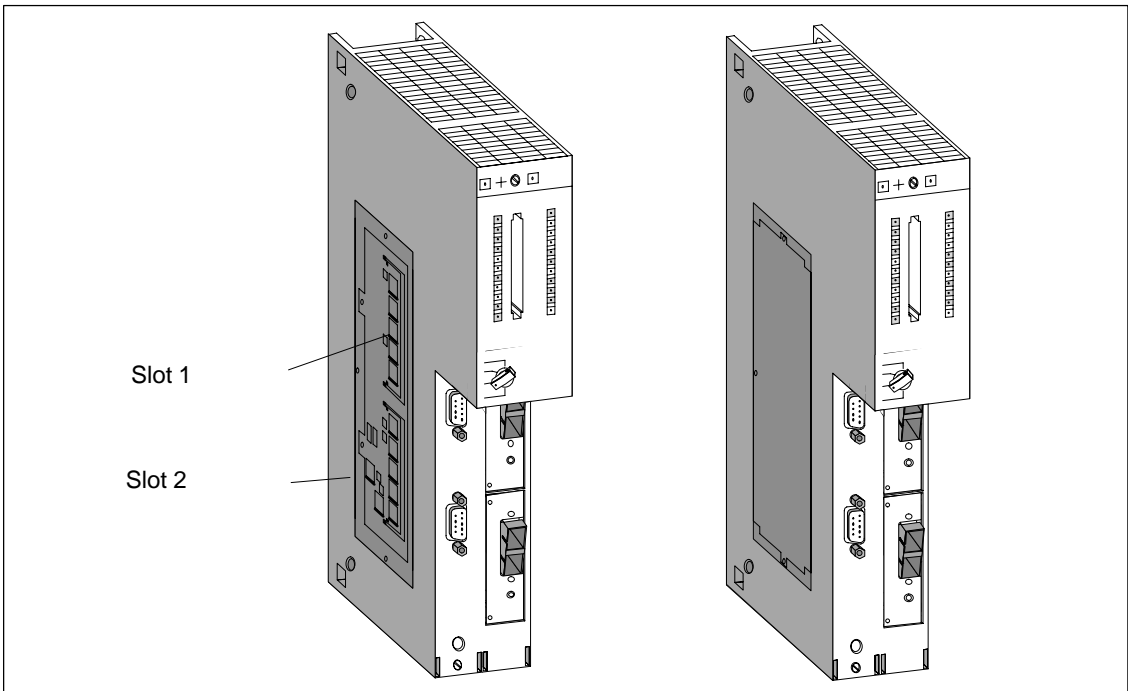

Figure 4-4 Fitting memory cards in the CPUs
2. Push the first memory card down through an angle of approximately 45° into slot 1 (see Figure 4-4). Note the cutout at the front of the card (polarity reversal protection).
4. If necessary, insert the second memory card in slot 2 in the same way (see Figure 4-4).